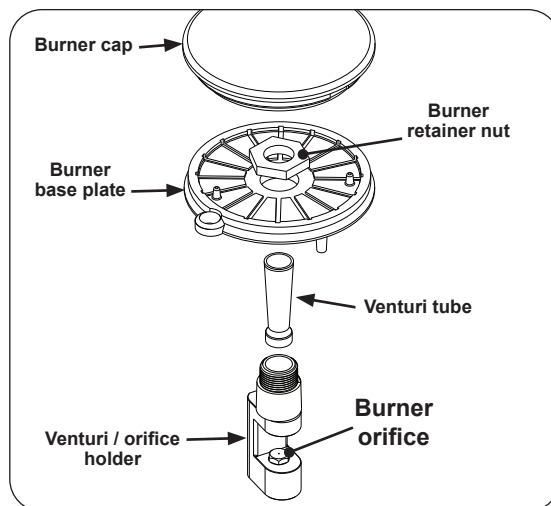

Fig. 31-1 Burner details
2. Remove the retainer nut using an adjustable wrench (see Fig. 31-1).
3. Remove the burner base plate and the venturi tube (see Fig. 31-1).
4. Carefully lift out the entire sideburner body from the enclosure and carefully set it on it's side to access the venturi/orifice holder. See Fig. 31-1.